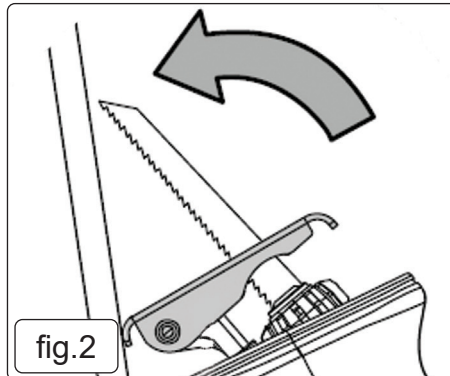

fig.2
- 4.7.3. First place the edge of the guide shoe on the workpiece before switching the power tool on, see Schematic representation plunge-cutting (fig.2).